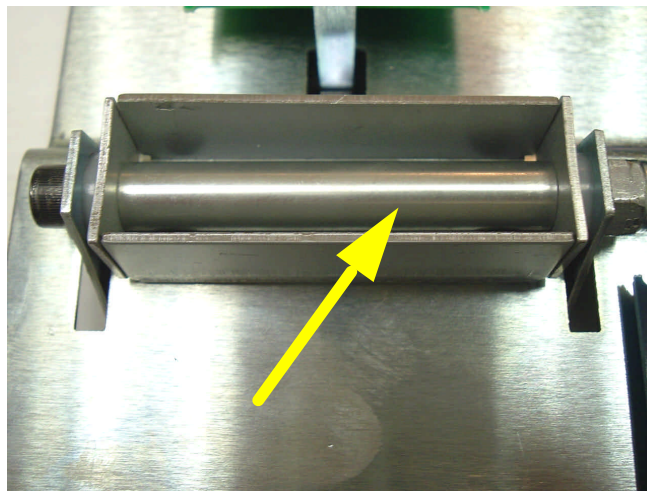

Figure 1, 30-15-0011 Spacer is shown assembled above.
- 3.1.6. Install Black Nylon Spacer, Black Finishing Washer and Chrome Nut onto 1/4" jack on the BACK of the chassis. **See figure 1 on next sheet.**
Step 3 – Figure 1
3) Assemble screw, spacer, washer parts, and nut in the correct order, as shown in **FIGURE 1** on next sheet.
Item (SEE FIGURE 1 BELOW)